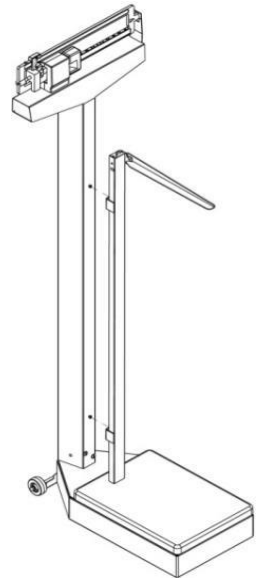

Fig. 3
- c. Fix the measuring ruler to the two hexagonal-head screws pre-assembled on the column. (See Fig. 3)